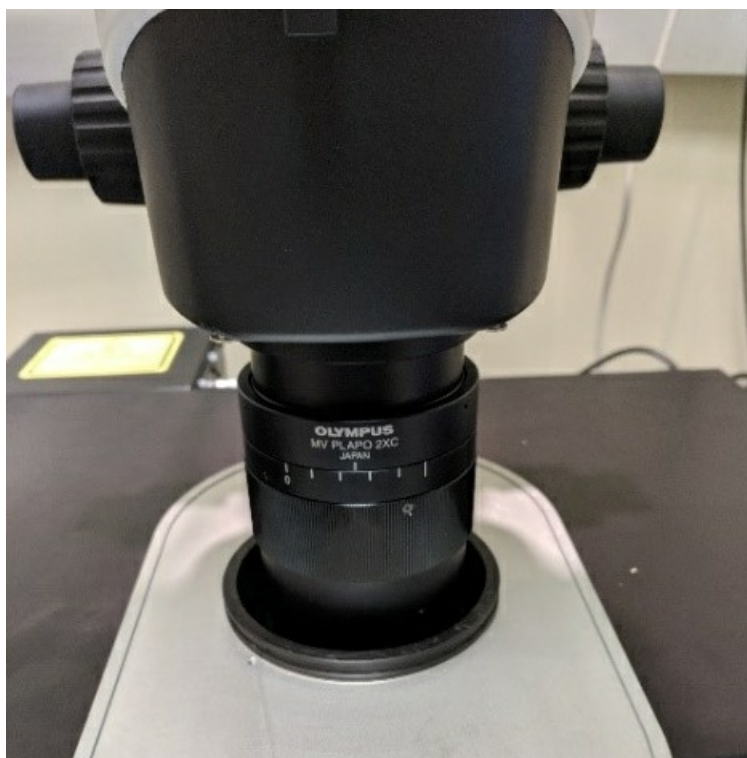

Figure 13.
- 16 Use the coarse adjustment knob to lower objective into the cuvette (Figure 13).